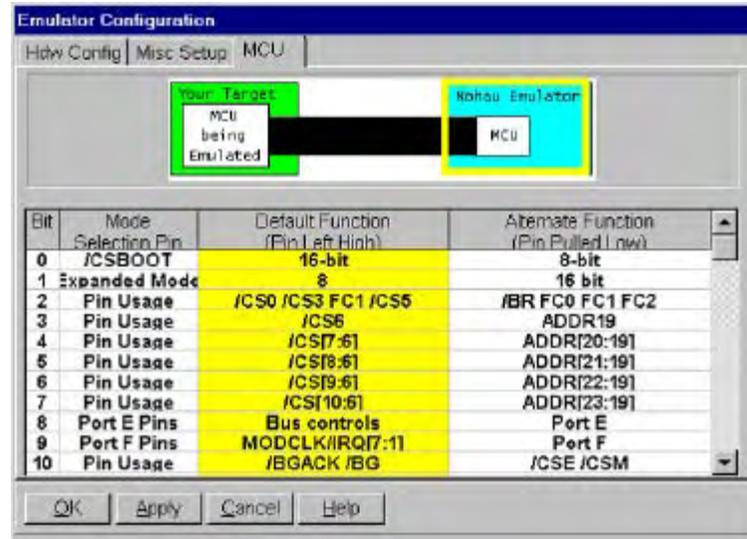
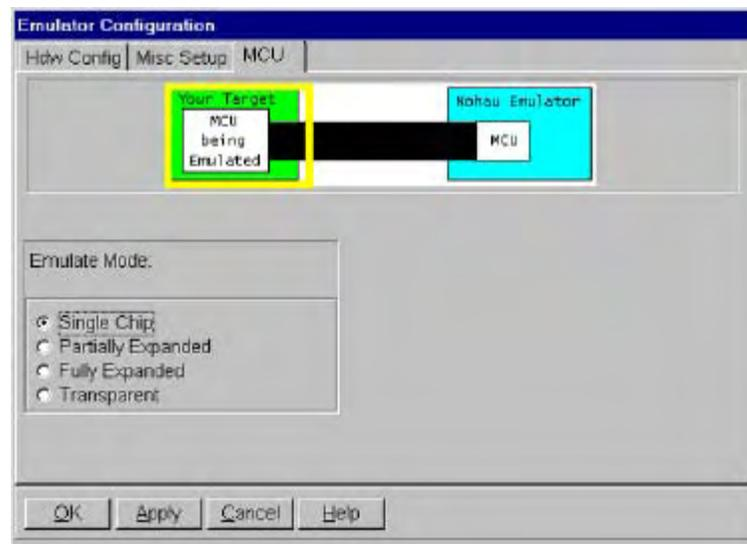

Figure 90. Emulator MCU Configuration
Figure 91. Emulator Target Configuration
7. Click the **MCU** tab at the top of the dialog box (Figure 90).
8. The **MCU** dialog box has two distinct areas: The top area has a graphic that has what appear to be two boards connected by a black ribbon. Move your cursor over the left part labeled **Your Target – MCU being Emulated** and click it. A colored box will move to the left and a secondary dialog box appears with four option buttons (Figure 91). This area represents the chip that the emulator is mimicking.
10. Move your cursor over the graphic at the top labeled **Nohau Emulator – MCU** and click it. The colored box moves back to the right and the initial dialog box reappears (Figure 90 and Figure 91). Some of the text in this box is bold and some faded. The faded text is not selectable. The column labeled **Default Function (Pin Left High)** is initially colored green. Move your cursor over the last column **Alternate Function (Pin Pulled Low)** and select the following boxes if not already selected (boxes already selected will be green in color):